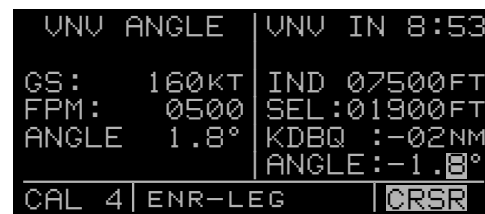

Figure 5-27
- Use the outer knob to move the cursor to the **ANGLE** field, and then enter the desired descent angle (figure 5-27). If the time to begin your descent is greater than ten minutes, **VNV ARMED** will now be displayed on the top line of the NAV 4 page. If the time is less than ten minutes, the top line displays a countdown to the time to begin the descent.